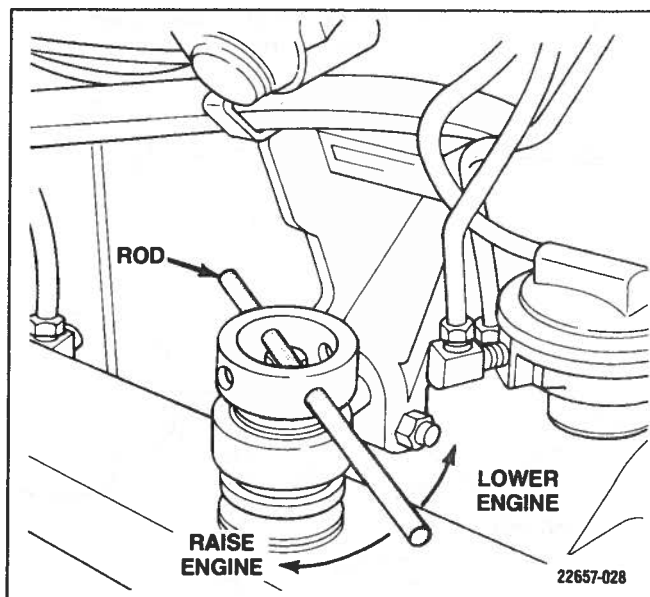

Figure 2-7. Engine Mount Adjustment
- a. To adjust the engine up or down (Figure 2-7), loosen the lag screw only 1/4 of a turn. Use mount adjusting tool or a 1/2 in. or 3/8 in. diameter rod through both sides of the adjusting sleeve to turn. After the adjustment is complete, retighten the lag screw.